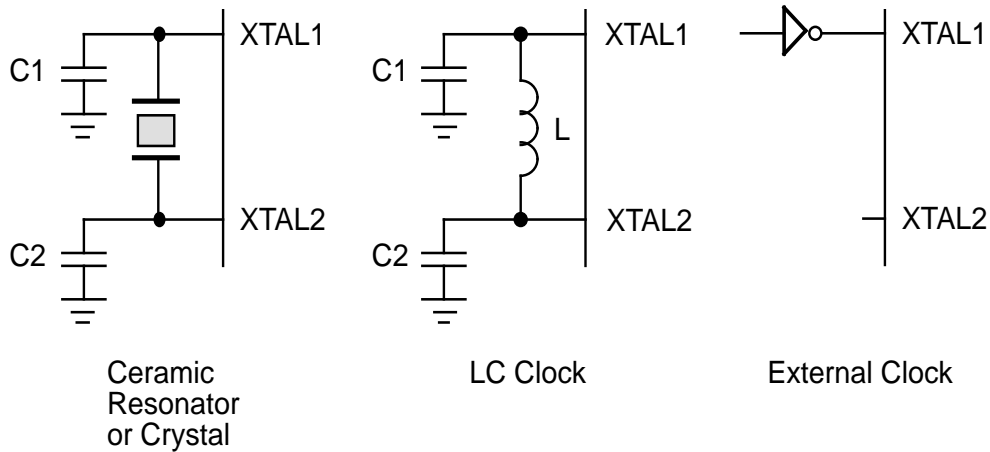

**Figure 16. Interrupt Block Diagram**
**Interrupts.** The Z86318 features four interrupts from four different sources. These interrupts are maskable and prioritized (Figure 16). The four sources are divided as follows: the falling edge of P31, P33, and the two counter/timers. The Interrupt Mask Register globally or individually enables or disables the four interrupt requests (Table 4).